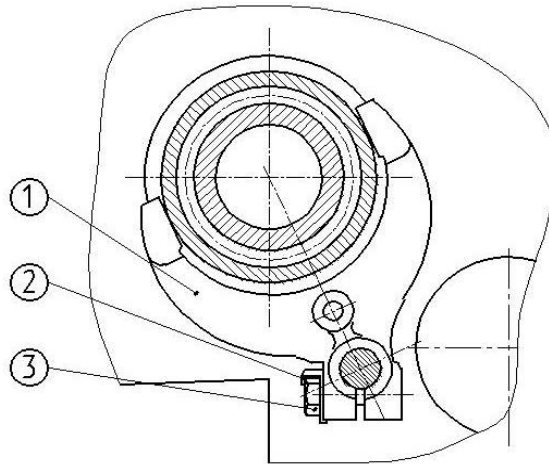

Figure 4.95
b) unpin washer 2 (Figure 4.95) and unscrew bolt 3, dismantle yoke 1;